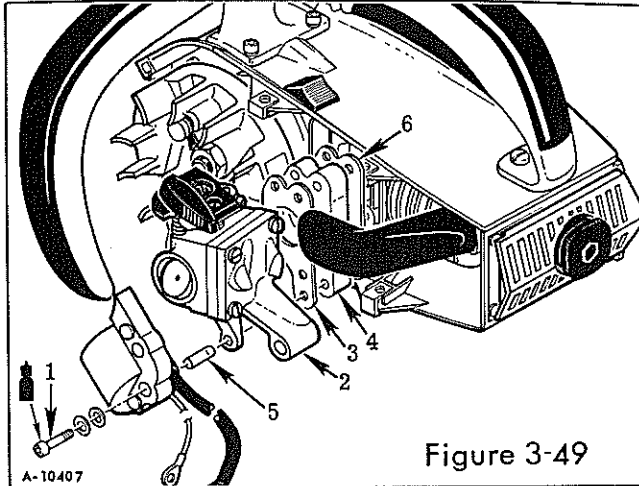

Figure 3-49
flywheel rim are away from the coil and lamination assembly. Remove the two screws (1, Figure 3-49) attaching the coil and lamination assembly to the carburetor. Lift the coil and lamination assembly aside.
- Use new insulator and carburetor gaskets. Place them on the insulator (Figure 3-49). Make sure the air/fuel passage holes line up. Insert the three plastic insulating tubes through the insulator and gaskets and mount the insulator and gaskets on the carburetor with the tubes.